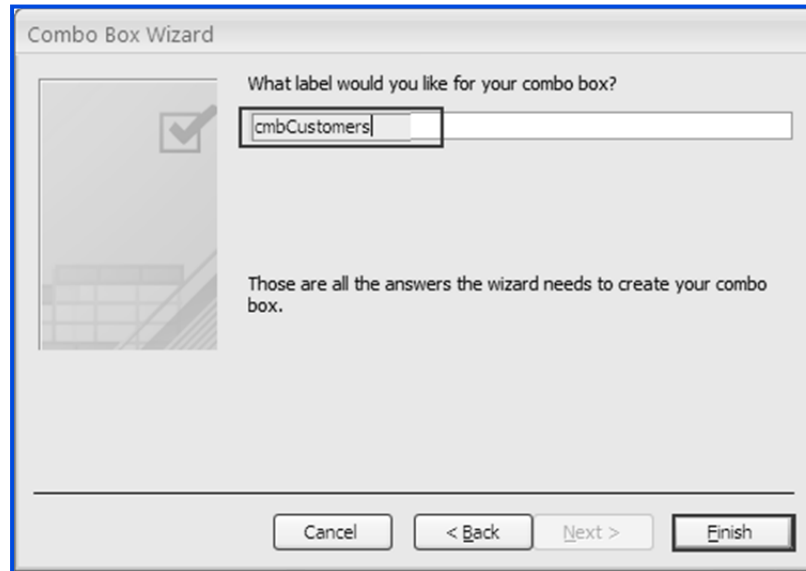

Fig. 2.2.21: Type Name for Combo Box
11. Click *Next* to make the *Name* window appear. Type the name *cmbCustomers* for the Combo Box and click *Finish* to close the wizard, as indicated in Fig. 2.2.21.